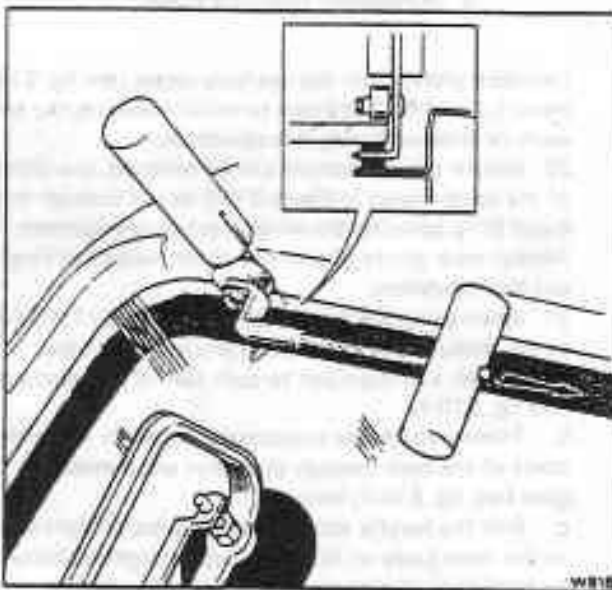

Fig. S10-7 Correct method of using the windscreen knife
a. Attach a suction pad to each side of the windscreen (see fig. S10-7).
b. From outside the windscreen, carefully insert the blade of the tool through the Butyl and behind the glass (see fig. S10-7, inset).
a. Attach two suction pads to the windscreen (see fig. S10-7).